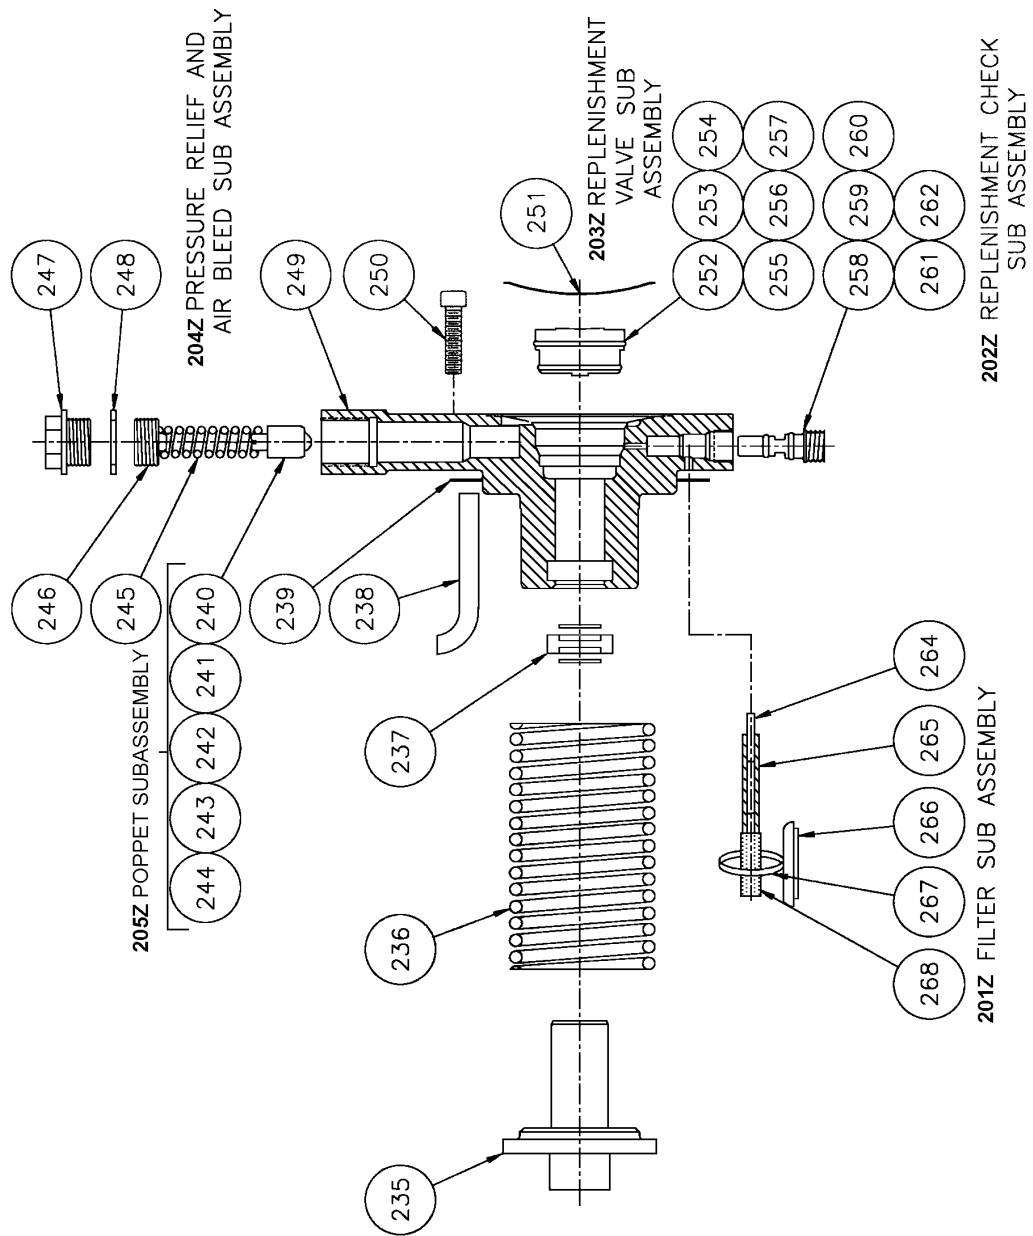

Figure 36. Plunger Body Assembly, Size B.
6.16 PLUNGER BODY ASSEMBLY COMPONENTS, SIZE B (FIGURE 36)
6.18 PLUNGER BODY ASSEMBLY, SIZE B (FIGURE 36 & 37)
200Z	* Complete Plunger Body Assembly (Less Relief Valve Spring) Contains All Plunger Body Assembly Components (Figure 36) and 5 Subassemblies (Figure (37)).